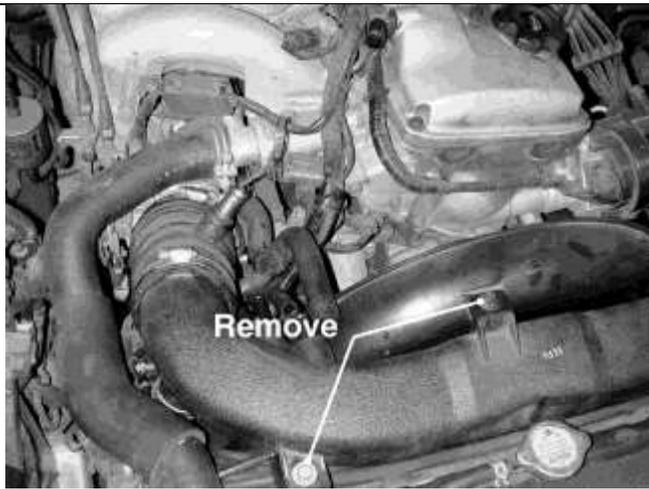

Fig. 4
- g. Loosen the hose clamp on the throttle body. Remove the bolt from the radiator fan shroud and the bolt from the radiator support. (Fig. 4)